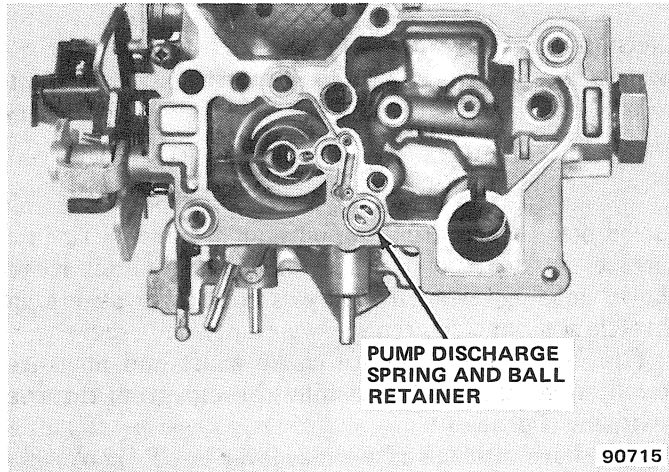

Fig. 1J-49 Model 2SE Carburetor—Pump Discharge Retainer Installed
(13) Using Tool J-22769 or screwdriver that fully fits slot in top, install main metering jet into bottom of float chamber. Tighten jet securely.
(14) Install inlet needle seat assembly with gasket using Tool J-22769 (fig. 1J-34).
(15) For easier adjustment, carefully bend float arm inward at notch in arm before assembly.